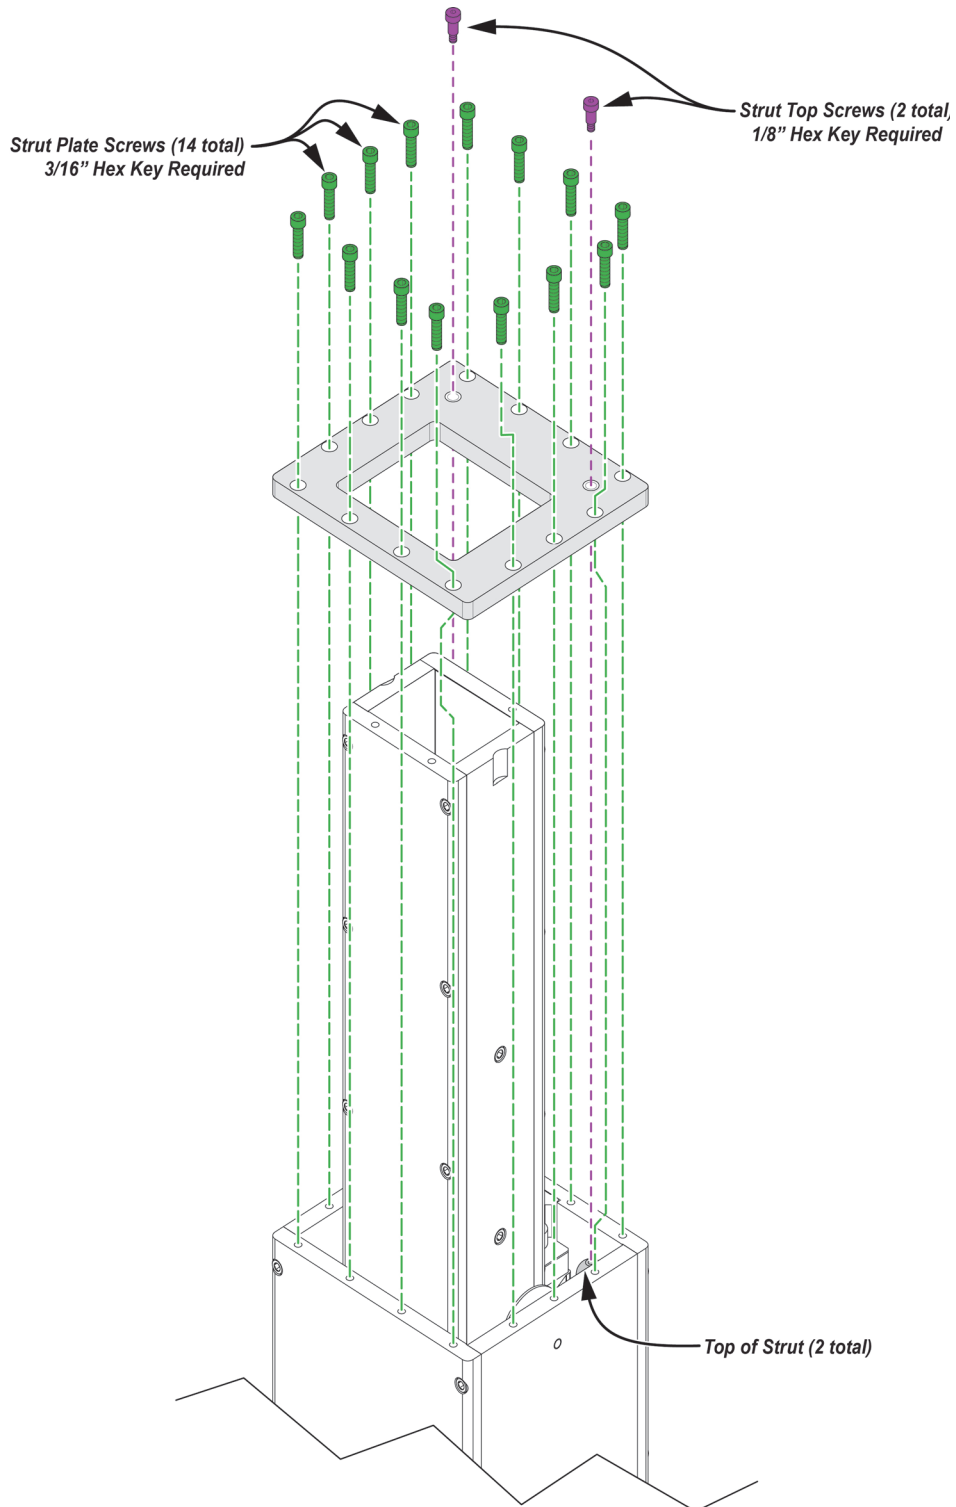

Figure 11 - Strut Top Screws (2 pcs) and Strut Plate Screws (14 pcs) (Top plate on lift column omitted for clarity)
6. At the top of lift column's middle stage, use a 1/8" hex key to remove the two strut top screws. In **Figure 11**, these screws are shown as purple. Retain the screws for installing the new struts.
7. Use a 3/16 hex key to remove the 14 screws that fasten the strut plate to the lift column. In **Figure 11**, these screws are shown as green. Retain the screws for re-installation later.
13. Use a 1/8" hex key to install and tighten the strut top screws, threading them into the tops of the struts (see **Figure 11** on page 4–40).